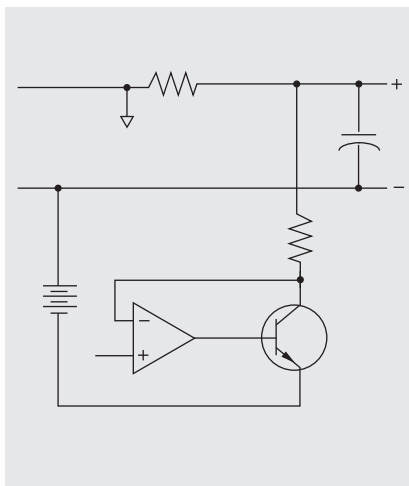

Figure 2: A down programmer situated between power supply's positive output and a negative source.
- In Figure 2, the down programmer lies between the power supply's positive terminal and a negative source. This configuration pulls the output completely down with no degradation near zero.